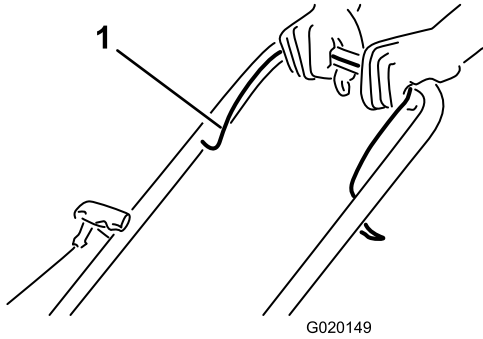

Figure 10
1. Hold the blade-control bar (Figure 10) against the handle.